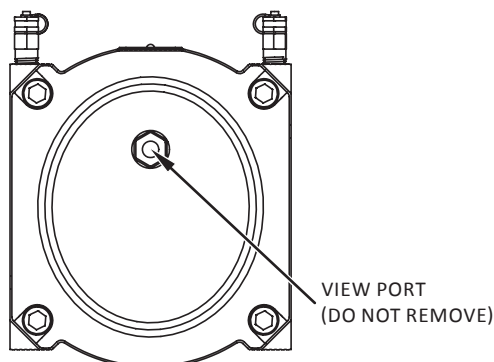

Figure 8. Back of meter
- e) Slowly open the meter's outlet valve until the meter starts to operate at low speed. Meter speed can be seen through the view port located on the back of the meter [Figure 8].